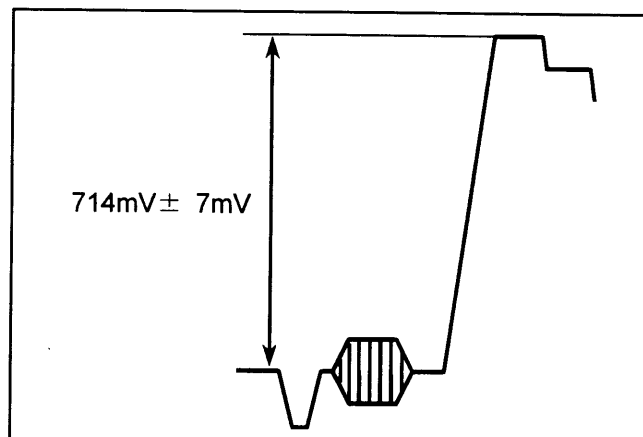

Figure 8
3. Adjust VR1 so that the Y level of VIDEO 2 OUTPUT becomes $714mV \pm 7mV$ as shown in Figure 8.